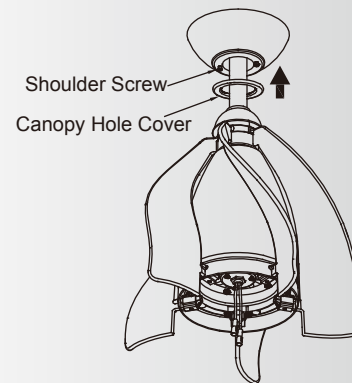

Fig. 20
Step 3. Securely attach and tighten the canopy hole cover over the shoulder screws in the mounting bracket utilizing the keyslot twist-lock feature. (Fig. 20)